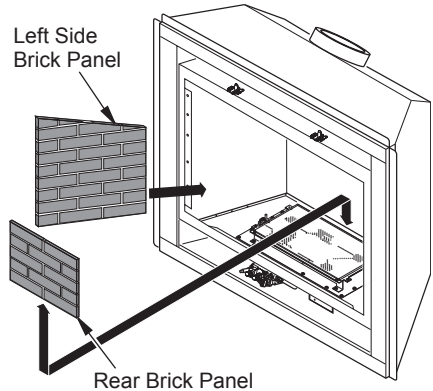

Figure 43 - Installing Rear Brick Panel
5. Close glass door frame. Lock latches by placing bar under tab on door and pushing down and back on latch (see Figure 43, page 28).
6. Install rear brick panel first. Rest bottom edge of panel on back edge of burner assembly (see Figure 43).
7. Install left side brick panel by sliding it between burner assembly and side of firebox (see Figure 43).